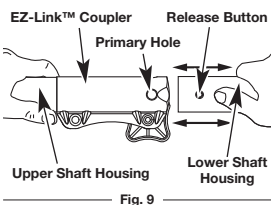

Fig. 9
3. While firmly holding the upper shaft housing, pull the cutting attachment or add-on straight out of the EZ-Link™ coupler (Fig. 9).
2. While firmly holding the add-on, push it straight into the EZ-Link™ coupler (Fig. 9).